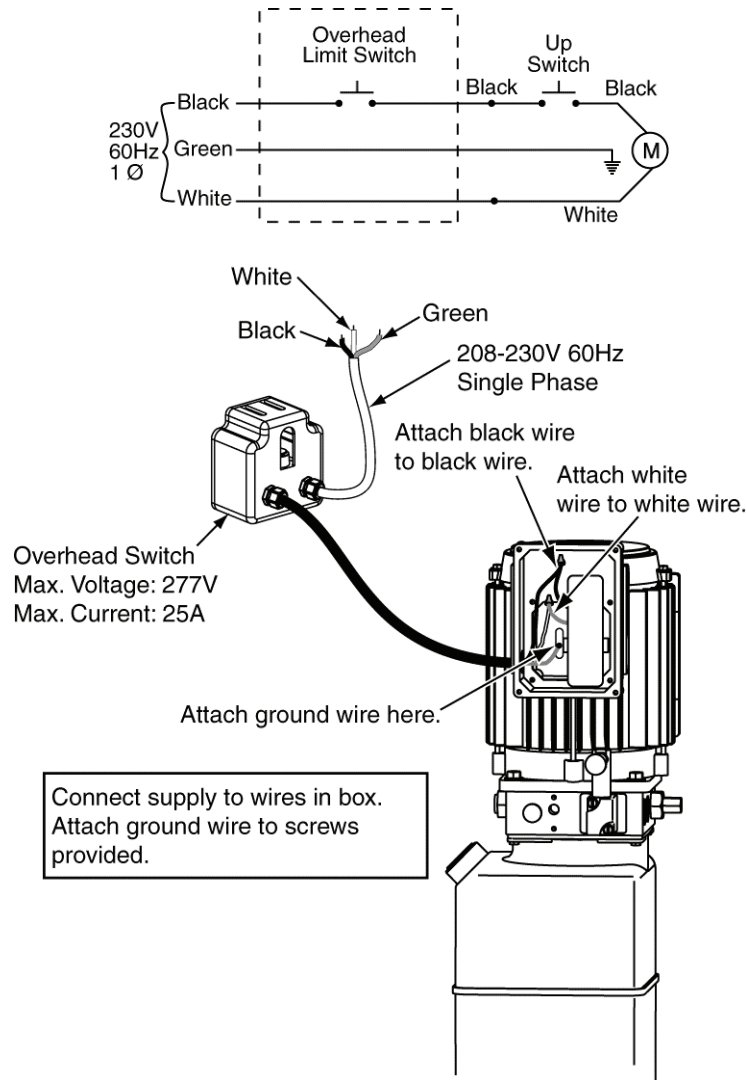

Figure 13
- A. Have a certified electrician establish 208-230V, single phase, 60 Hz., 20 amp, power supply to motor and overhead switch, Figure 13.